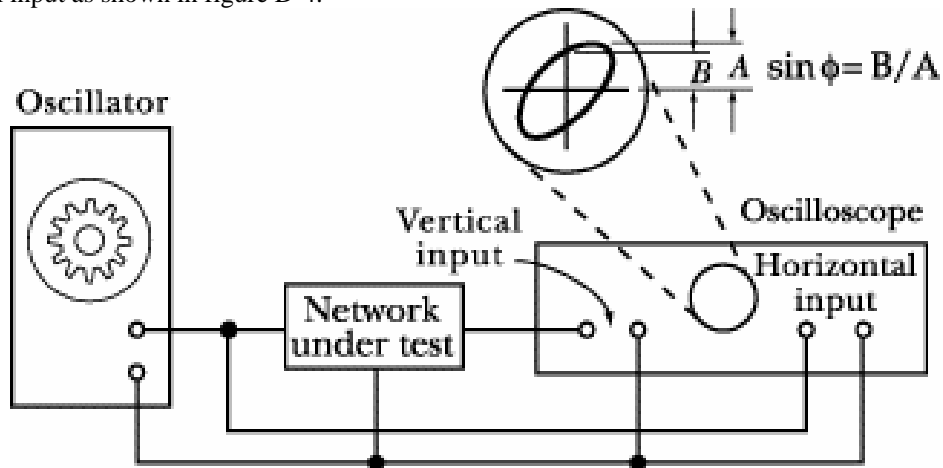
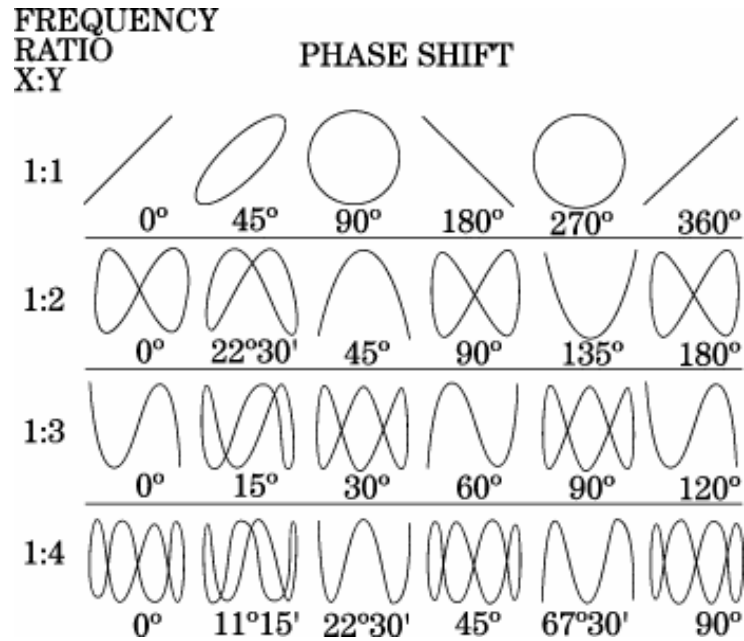

Figure D-4
Figure D-5
*Lissajous Figures:* The HP54603B scope offers a convenient means of comparing signal frequencies through the use of Lissajous diagrams. Two frequencies are impressed on the scope inputs, one on the horizontal input and one on the vertical input as shown in figure D-4.
One of these frequencies may be a known frequency as obtained from a variable frequency oscillator or signal generator. If the two input frequencies are multiples of each other then the patterns that are displayed on the CRT screen are called Lissajous diagrams. The frequency ratio is related to number of vertical and horizontal maxima of the signals. The shape of the output depends on the phase difference between the two signals. Figure D-5 shows Lissajous figures for some simple frequencies ratios and phase differences.
where B and A are measured as shown in figure D-4. If both signals have the same input frequency, the shape of the figure varies depending upon the phase difference between the two signals. For zero phase shift, the ellipse will become a straight line with a slope of 45° to the right; for 90° phase shift it will become a circle; and for the 180° phase shift it will become a straight line with a slope of 45° to the left. The top row of figure D-5 shows how the Lissajous figure should look at different phase differences when the frequency ratio between the two signals is 1:1.